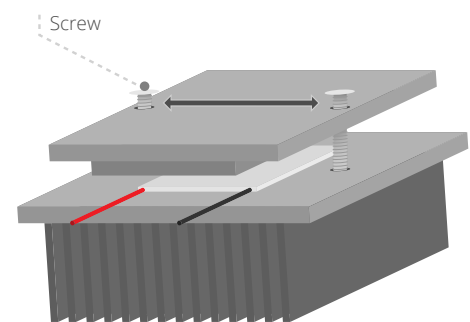

FIGURE 6. ORDER OF SCREW TIGHTENING
8) Tighten the screws until the washers are gently held in place. While doing this, to ensure that even force is applied across the module, apply 200 ~ 300 N [for a 40 mm square unit] of pressure to the center of the aluminum block and tighten each of the screws alternately little by little. **[figure 6]**